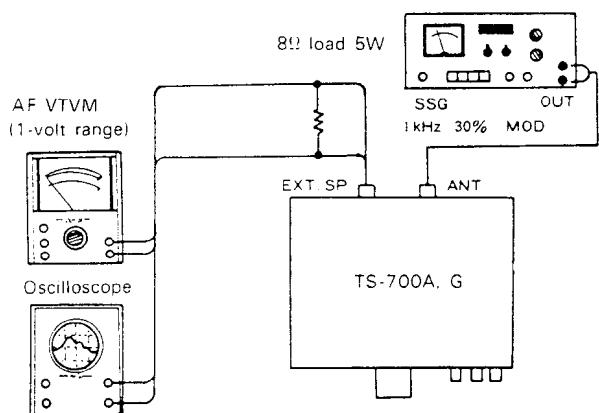

Fig. 17
Cable the equipments as shown in Fig. 17. Controls of TS-700A or G is set as follows:
- 1) Referring to Fig. 17, feed the SSG output of 146.5 MHz (700A), 145MHz (700G), not modulated, at 10μV (20 dB) into the transceiver set for FM mode reception. The input level should be such that the pointer of "S" meter will swing to and stay at the middle position on the scale.